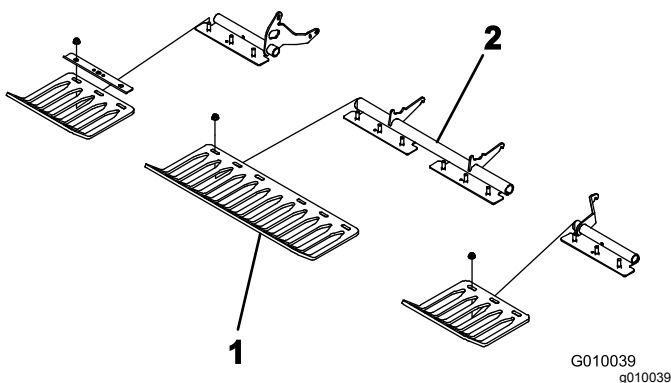

Figure 25
4. Loosely install the turf guards to the turf guard brackets with 4 turf guard clamps and 12 flange nuts (Figure 25). Do not tighten the fasteners.
Note: The factory ships turf guard clamps and flange nuts secured to the turf guard brackets (Figure 25).